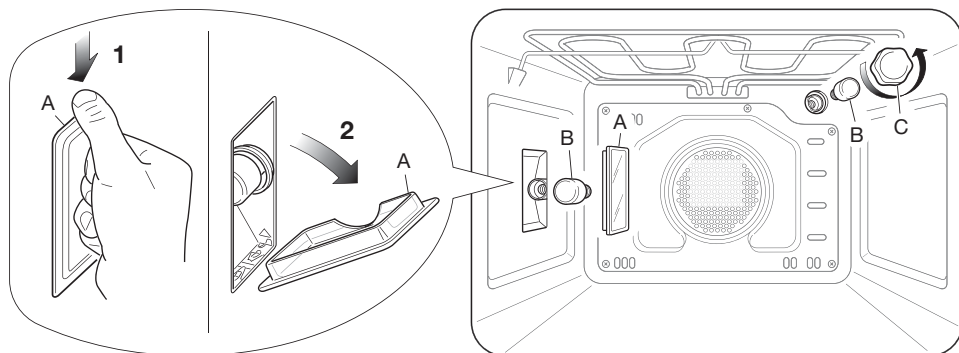

Fig.26 Removing the oven lamps
- Press down from the top the protective cover A (Fig. 26) and remove it by rotating on the lower side.
- Remove the protective cover C (Fig. 26).